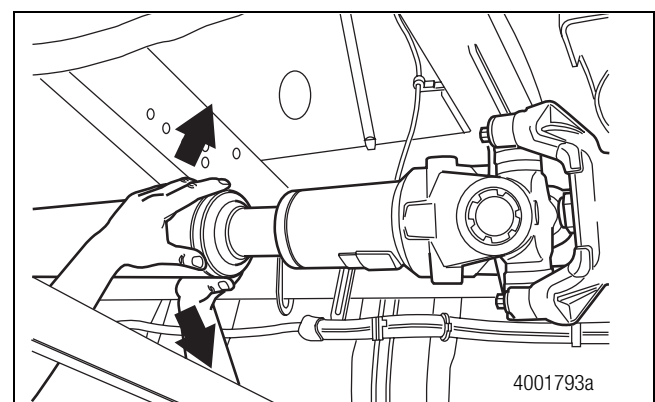

Figure 4.14
4. With your hands near the center of the driveline, move the slip yoke UP-AND-DOWN. Check the dial indicator measurement. Movement between the spline plug and slip yoke must not exceed 0.017-inch (0.432 mm). Figure 4.14.